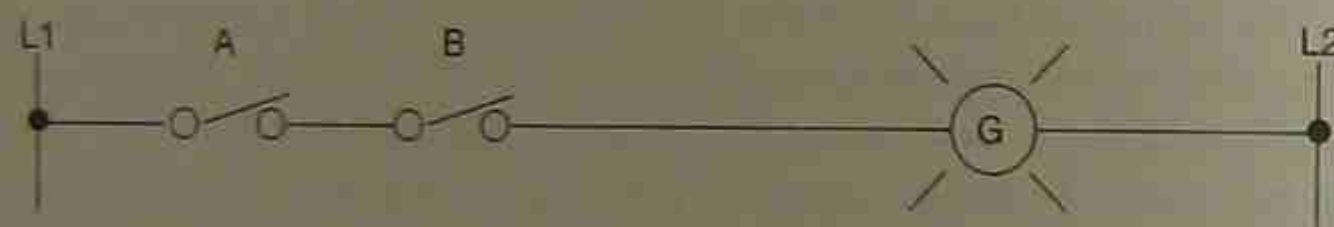

Figure 7-5 Two Switches Wired in Series
7. In a ladder diagram, devices that perform a *STOP* function are normally wired in series. Figure 7-5 shows two switches wired normally closed (N.C.) that control a green indicator lamp.
From the truth table, we see that both inputs *A* and *B* must be TRUE, or set to 1, before the output is turned ON, or set to 1. The AND gate functions like the two switches that were wired in series to a lamp in Figure 7-5. Both Switch A and Switch B had to be closed for the lamp to light.